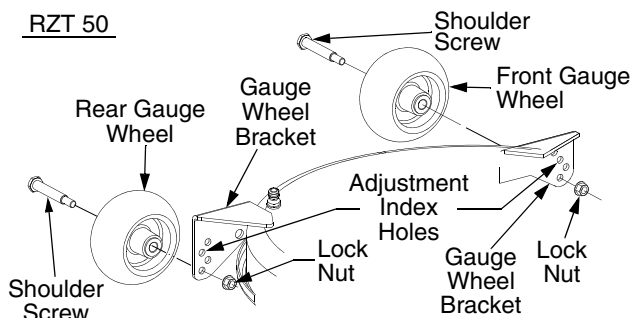

Figure 35
- Remove the lock nut securing one of the front gauge wheel shoulder screws to the deck. Remove the gauge wheel and shoulder screw. See Figure 35.
- Remove the lock nut securing one of the front gauge wheel shoulder screws to the deck. Remove the gauge wheel and shoulder screw. Refer to Figure 35.